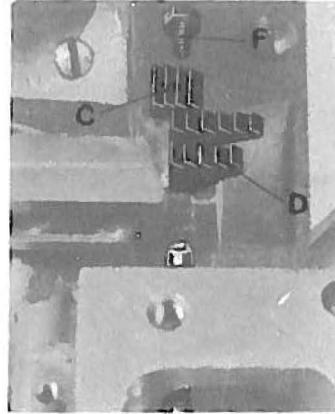
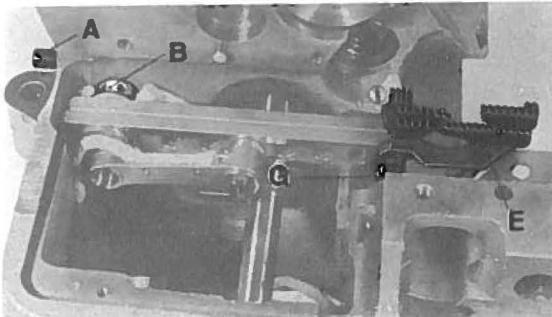

fig. 12
fig. 13
- At this point loosen screw F (fig. 12) and raise or lower feed dogs C and D so that half the depth of the teeth of the feed dog are above the top surface of the needle plate.
- Retighten screw F (fig. 12).
- Set the front feed dog E (fig. 13) in slot on differential feed lever with screw G.
- Retighten screw G. (fig. 13). It may be necessary in some cases to lower chaining feed dog C (fig. 12) for chaining off purposes.
- In the event it is found necessary to tilt feed dogs, loosen screw A (fig. 13) and turn eccentric B (fig. 13) in the direction required to get the proper setting.
- loosen screw M of lower knife holder (fig. 13)
- turn handwheel clockwise till knife-holder block A is in its uppermost position. Loosen screw M (fig. 13)
- Activate lower knife holder so that knife holder pressure-spring will apply the correct pressure to the cutting edges of the trimmer knives. At no time should pressure be applied against screw A (fig. 13) when setting the trimmer knives.
- Retighten screw M (fig. 13)